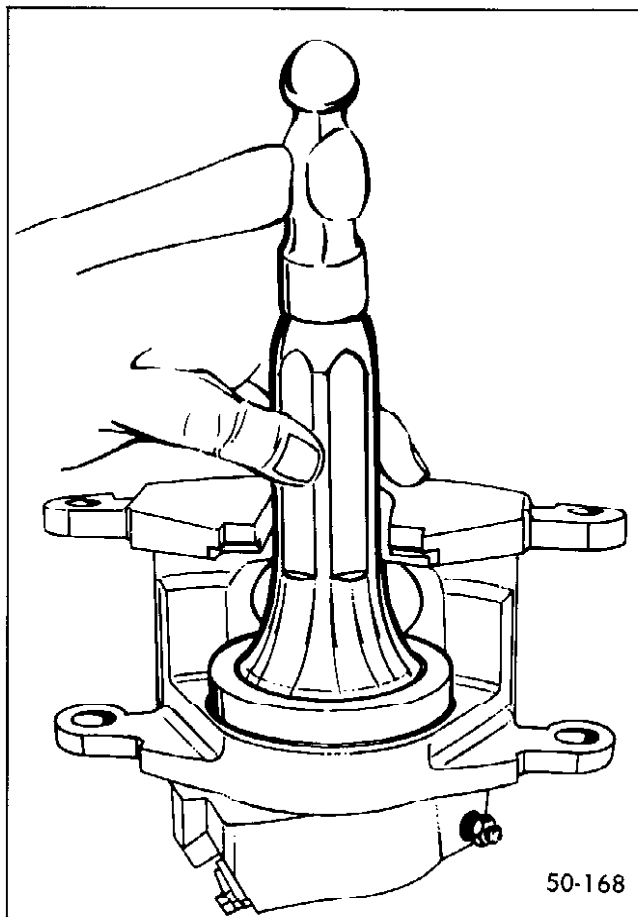

Figure 50-58--Seating Boot
1. Lubricate the bore in the caliper and the new piston seal with clean brake fluid. Position the seal in the caliper bore groove. Lubricate the piston with clean brake fluid and assemble a new boot into the groove in the piston so that the fold faces the open end of the piston. Insert the piston into the caliper bore, using care not to unseat the seal and force down to the bottom in the bore. This will require a force of 50 to 100 pounds. Position the OD of the boot in the caliper counterbore and seat with tool No. J-22904. See Figure 50-58.
2. Check the boot installation to make sure that the retaining ring molded into the boot is not bent and that the boot is installed fully, below the caliper face, and evenly all around. See Figure 50-58. Otherwise dirt or moisture may enter the bore and cause damage or corrosion.